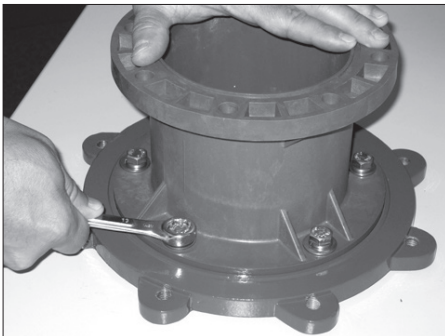
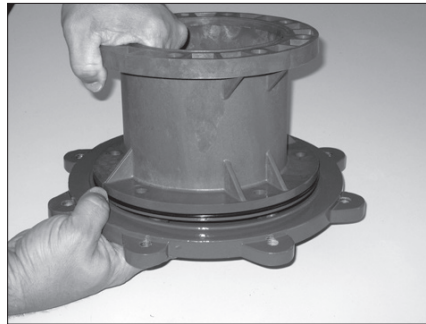

Figure 34
Figure 35
2. Remove the five (5) M8 bolts, lock washers and flat washers (items 34, 33, and 32) from the clamp ring (item 12B). See figure 34. Remove the clamp ring from the motor adapter. There is a snug fit between the clamp ring and motor adapter due to the vapor protection o-ring (item 12C). Carefully pull the two parts apart. See figure 35.